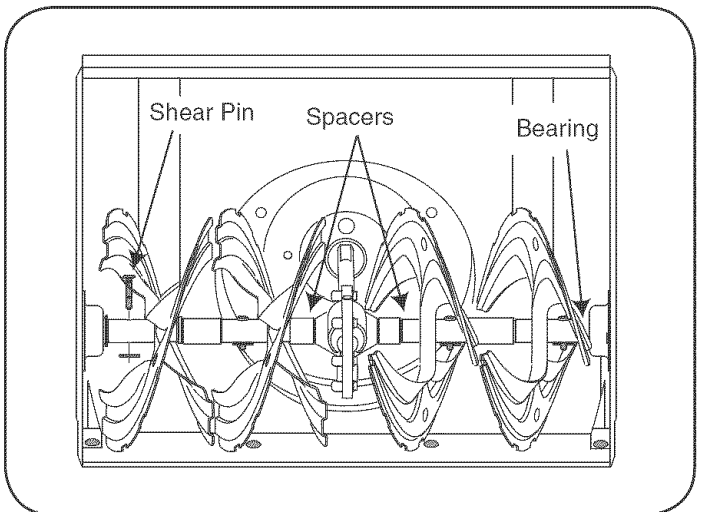

Figure 4
At least once a season, remove the shear pins on auger shaft. Spray lubricant inside shaft, around the spacers. Also lubricate the flange bearings found at either end of the shaft. See Figure 4.
- The augers are secured to the spiral shaft with two shear pins and cotter pins. If the auger should strike a foreign object or ice jam, the snow thrower is designed so that the pins may shear. Refer to Figure 4.